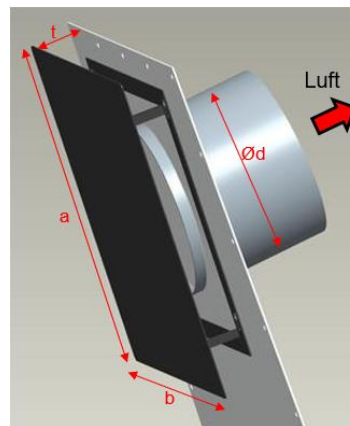

Figure 6: Baffle plate, exemplary illustration
- The surface area of the ring crevice ($2 * t * a + 2 * t * b$) should be at least twice the size of the cross-sectional area of the extraction pipe, see Figure 6.